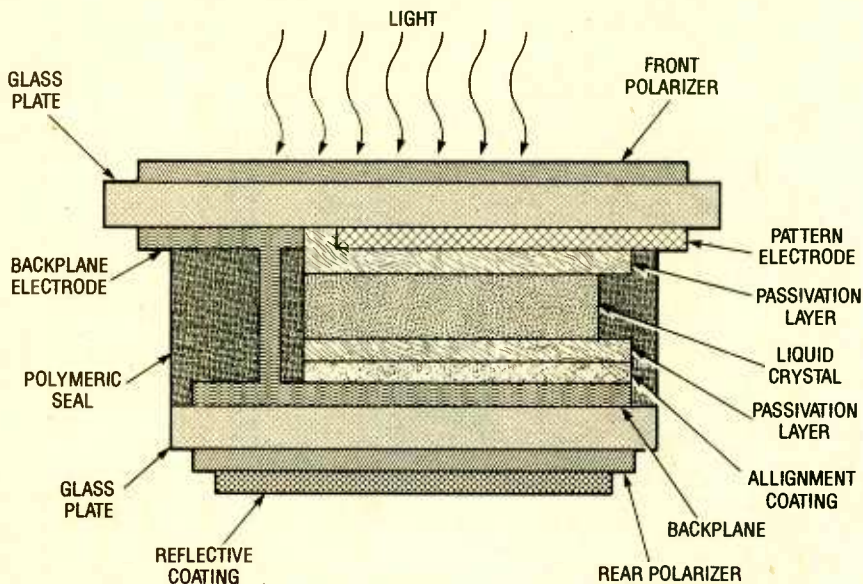

Fig. 1. This is the layout of a typical LCD. In the position shown, the unit would be read from above.
**How LCD's Are Built.** Figure 1 illustrates a single cell from the most common type of LCD called a Twisted Nematic Liquid-Crystal display or TNLCD.